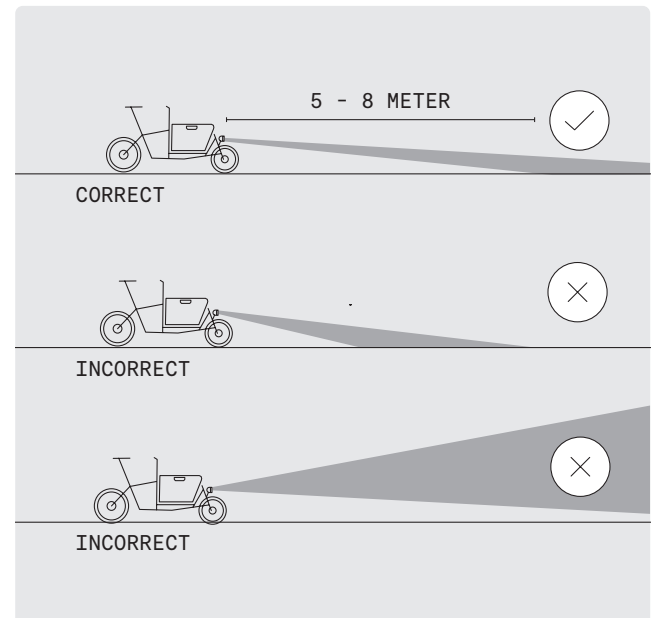

FIG. 51
→ Make sure that the lights are never titled such that they shine upwards. (Fig. 51)
- 2 Align the lights such that the light cone hits the ground in the area 5-8 m in front of the front wheel (Fig. 51).